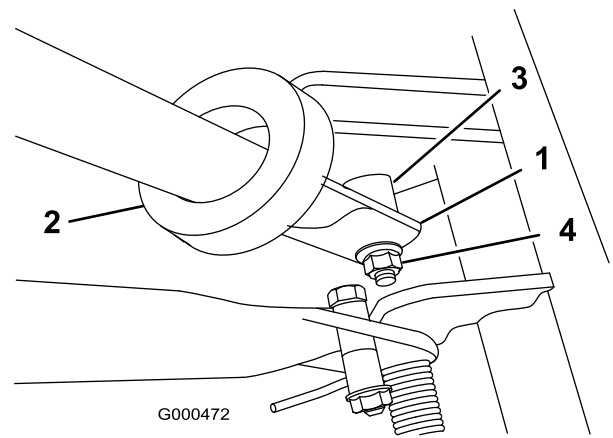

Figure 8
2. Insert the handle ends through the slots in the handle support arms (Figure 8).
3. Squeeze the handle ends inward and install them on the step of the pivot pin (Figure 8).
4. Secure the handle to the bolt and pivot pin with the flange lock nut (Figure 8).